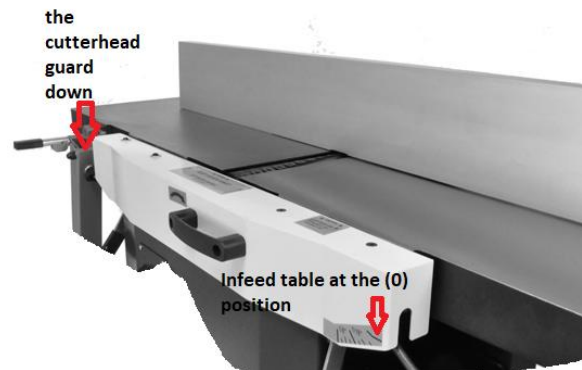

Figure 11.
1. Raise the infeed table to its highest, 0", level and use a metal straight edge to check its level flatness with the outfeed table, see figure 11.